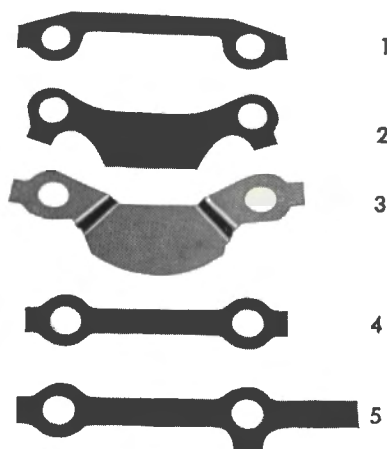

Fig. 42-7/4
* The locking plates have been modified several times. Use locking plate Part No. 111 994 04 32 for Teves and Girling brake calipers and locking plate Part. No. 112 994 03 32 for Dunlop brake calipers. The sheet-metal extension of this locking plate should be bent over the rubber ring (19) of the brake line in order to secure the line in position (Fig. 42-7/8).
Also for the Dunlop brake caliper has the locking plate been changed. The extended locking plate has to be bent over the rubber ring (19) of the brake line in order to ensure that the brake line has been properly laid. The locking plate has the Part. No. 112 994 03 32 (Fig. 42-7/8).